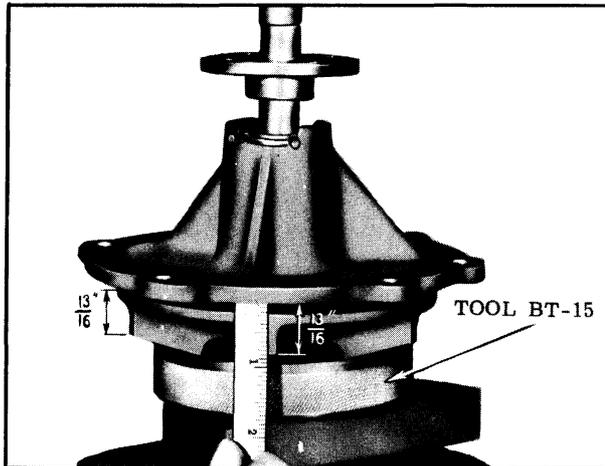

Fig. 8-63 Installing Impeller
6. Using Tool BT-15 to support impeller, Fig. 8-63, press bearing shaft through impeller until bottom edges of vanes are  $13/16$ " from machined face at edge of housing.